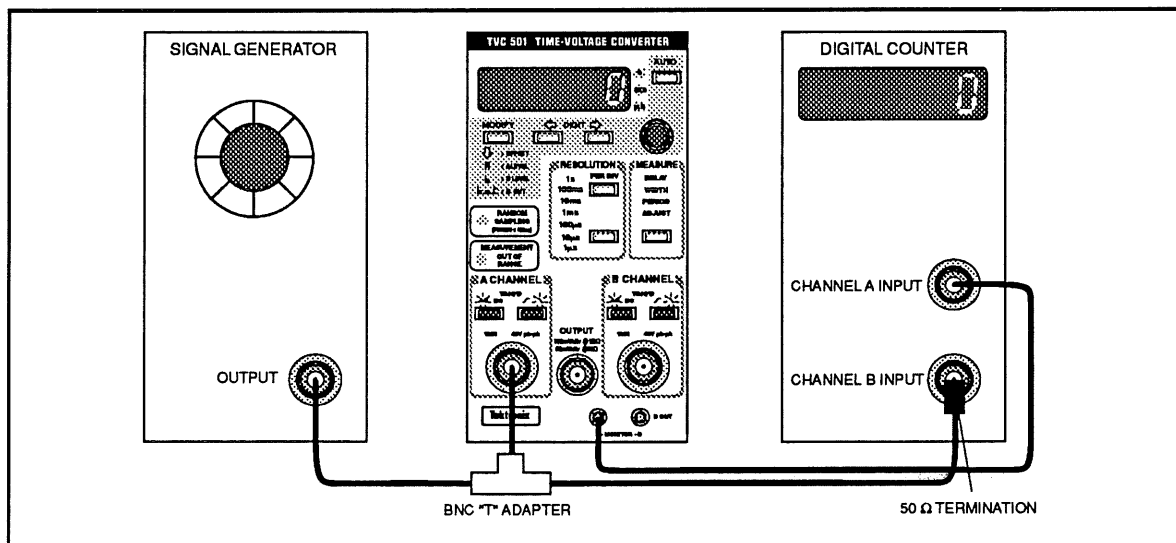

Figure 2-8. Channel A Monitor Output and TRIG'D Indicator Test.
1. Using two BNC cables and two BNC T adapters, connect the Signal Generator output to the TVC 501 **A CHANNEL** input and the channel B input of the Digital Counter as shown in Figure 2-8.